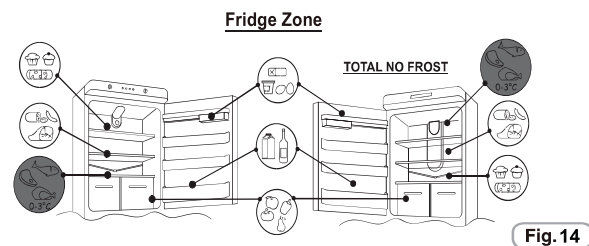

Fig.14
- To maintain the best flavour, nourishment and freshness of foods, it is advisable to store them in the refrigerator compartment as shown in fig.14 below, making sure to wrap them in aluminium or plastic sheets or in appropriate covered containers to avoid cross-contamination.